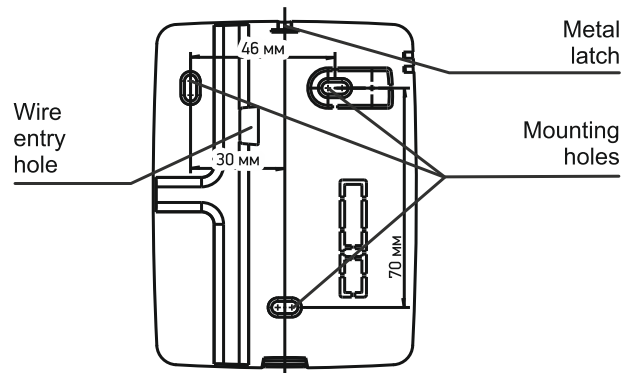

Figure 2
1) Remove the base of the keypad by pressing a slotted screwdriver on the metal latch in the hole at the top of the base (Figure 2).